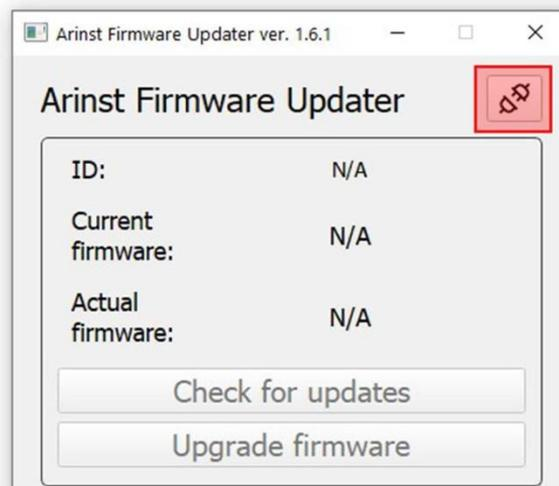

Figure A2.1 - Connecting the device to PC
2.3. Click the button5 to connect the device to your PC (Figure A2.1).